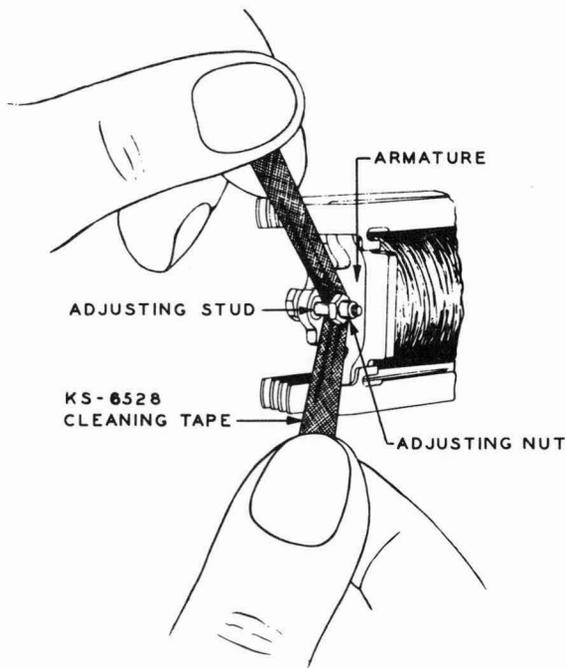

Fig. 52 – Method of Cleaning Adjusting Nut and Stud on A-, AB-, E-, EA-, F-, H-, R-, T-, U-, UA-, UB-, and Y-type Relays
7.12 Clean the armature and adjusting nut by passing a piece of KS-6528 cleaning tape back and forth between the armature and the adjusting nut around the adjusting stud, thereby removing whatever dirt there may be on the back of the armature, the adjusting nut, and the adjusting stud (see Fig. 52). For EA-type relays not equipped with an adjusting nut, see 7.13.